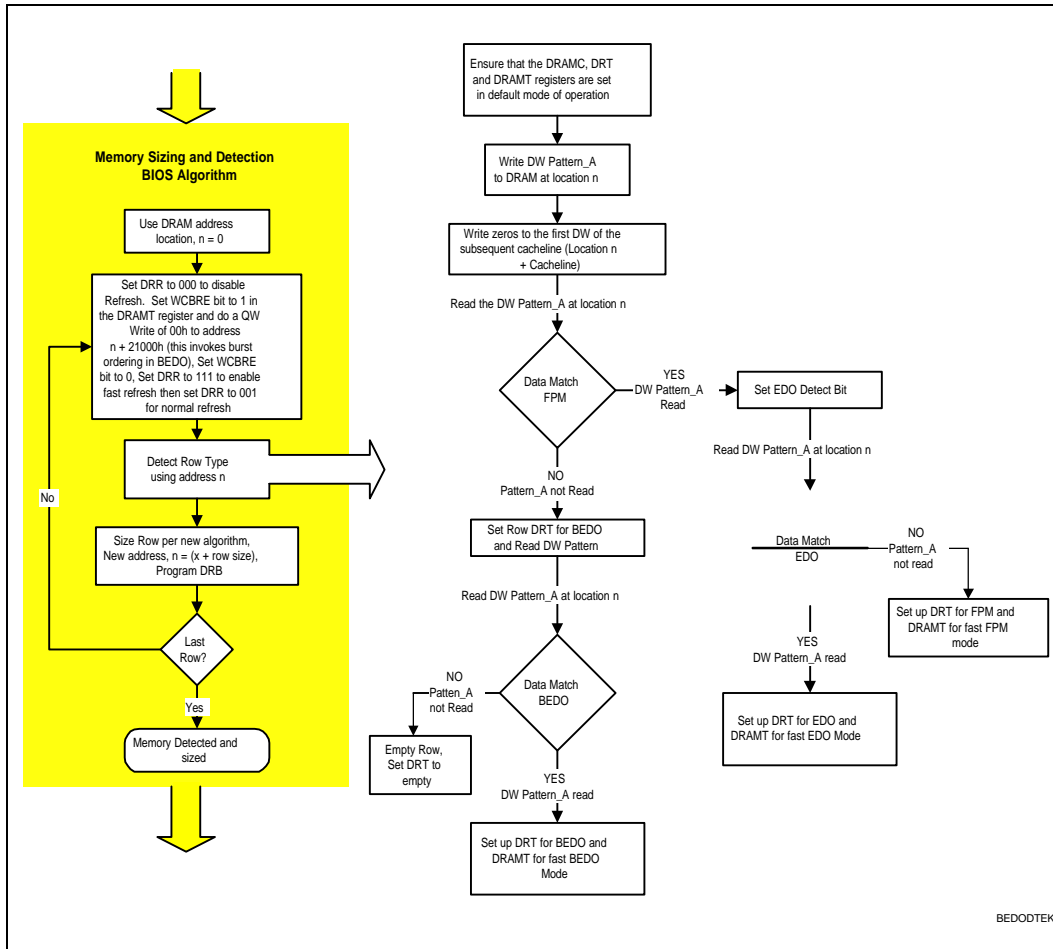

Figure 4. DRAM Auto-Detection Algorithm
Detection of BEDO type can be entirely accomplished in software. The memory row can be tested for DRAM type using the sequence outlined in the flow chart in Figure 4. The memory sizing and detection scheme used in 440FX PCIset detects and sizes one row at a time until all rows have been detected and sized. Starting with base address 000h, the steps followed are:
- Use the detection algorithm outlined in Figure 4 to detect the type of DRAM.